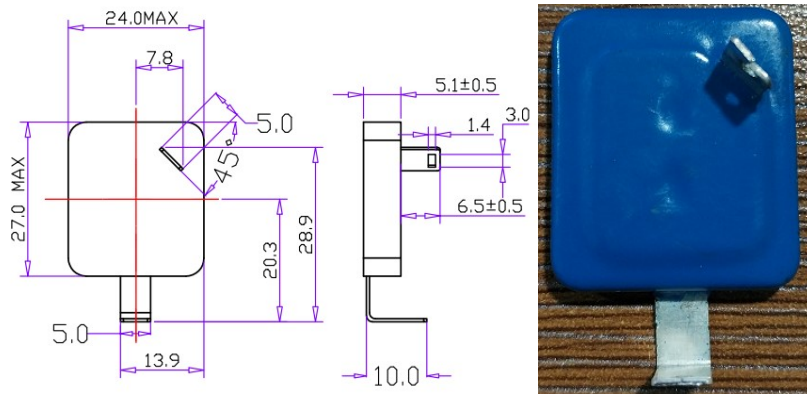

Fig. 1 Shape and Dimensions 单位: mm 未注公差小于 0.2 Unit: mm; Unremarked tolerances are less than 0.2
2. 尺寸及结构说明： Dimensions and Structure: fig.1